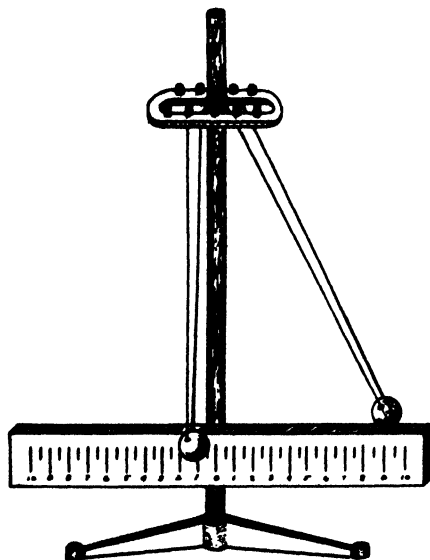

FIG. 232. MOMENTUM APPARATUS.
a) Suspend two balls of hard wood or metal of equal size and weight (Fig. 232) so that contact is made between them. Draw one ball aside a few inches and let it swing so that it will strike the second one squarely. Note the action of the two balls. What happens to the first ball? .....